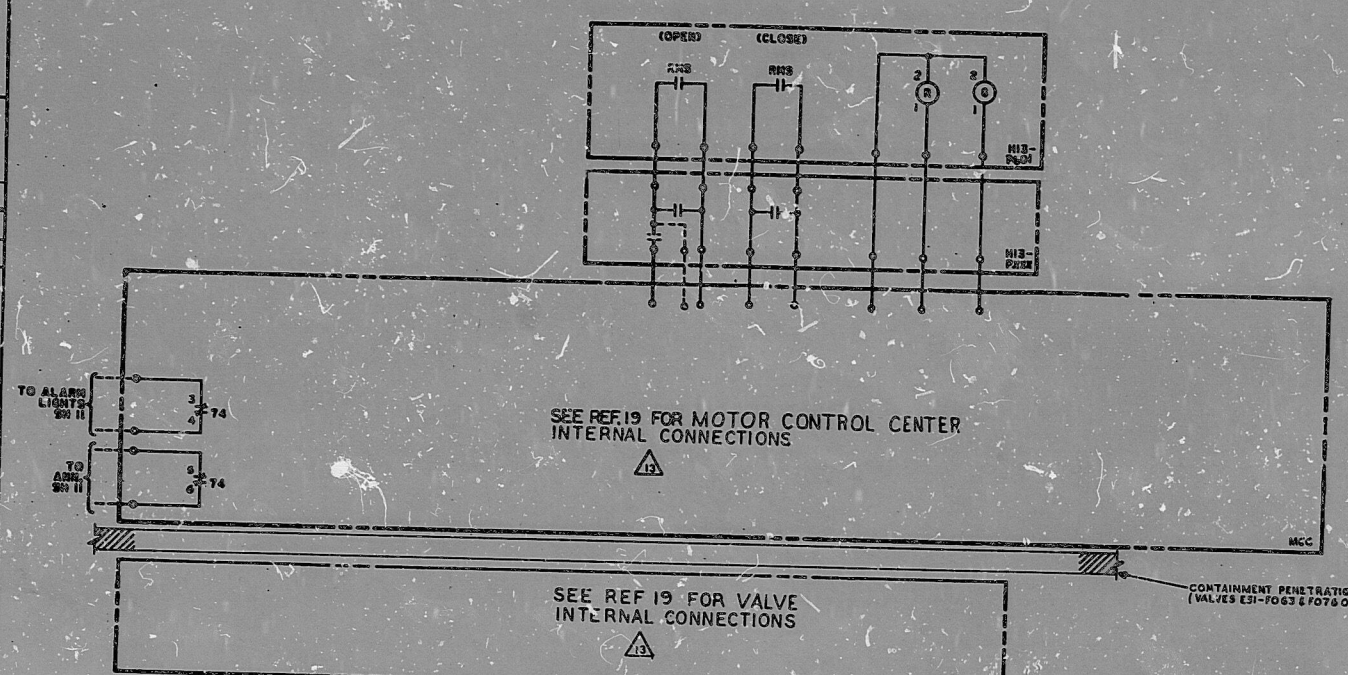

FIG. 1 TYPICAL MOTOR OPERATED VALVE AND MOTOR CONTROL CENTER
2. SEE FIG. 1 FOR TYPICAL MOTOR OPERATED VALVE AND MOTOR CONTROL CENTER. ALL NO-VALVES ARE DC UNLESS OTHERWISE SPECIFIED. SUPPLY WITH AND MOUNTED ON TURBINE ES1-C002.